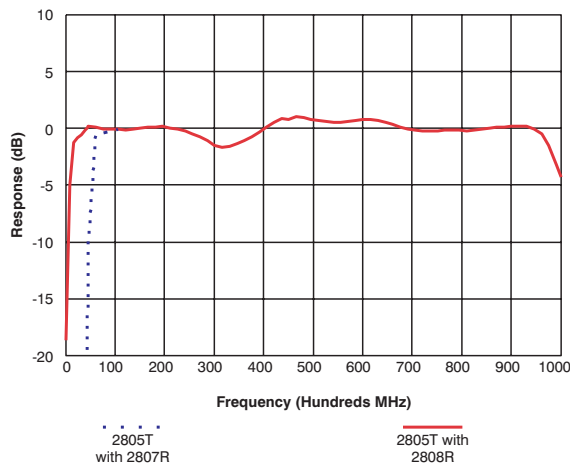

Figure 1.1 In-Band Frequency Response
- Figure 1.1 shows the typical frequency response of a 2805 link over the specified frequency range. The gain flatness is typically ± 1.0 dB over this range. The flatness is typically less than ± 0.1 dB over a standard 6 MHz channel bandwidth. See Application Note AN123 for additional information on North American Television Frequencies.